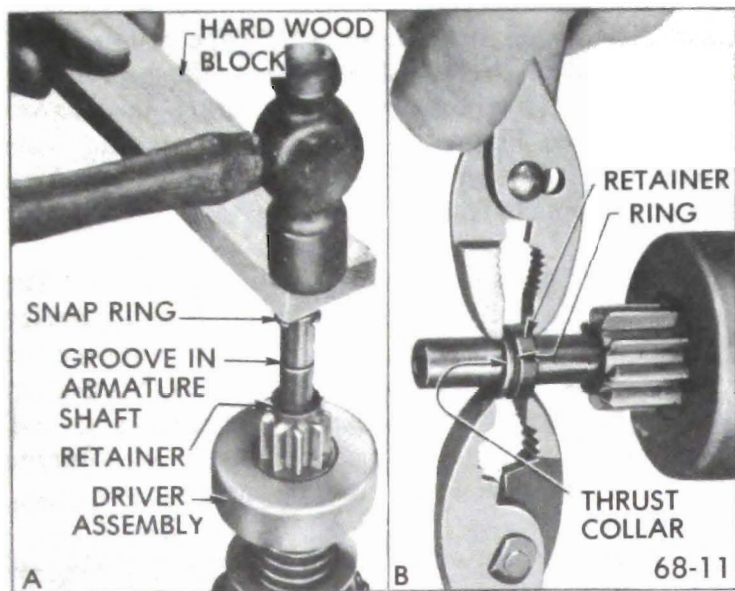

Figure 68-10 - Pinion Stop Retainer and Snap Ring Installation
5. Place a new snap ring on drive end of shaft and hold it in place with a hard wood block. Strike block with hammer to force snap ring over end of shaft, then slide the ring down into groove in shaft. See Figure 68-10, View A.
retainer and thrust collar together until snap ring is forced into the retainer. See Figure 68-10, View B.